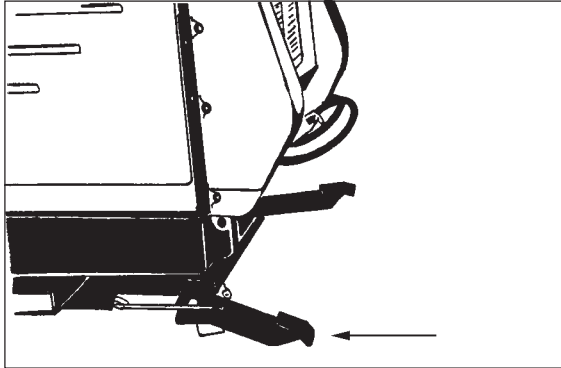

Figure 16
2. Set the parking brake by putting it into the down position. See figure 16. Make sure the key switch is in the "OFF" position.
2. Engagez le frein de stationnement en abaissant la pédale. Voir figure 16. Vérifiez que l'interrupteur principal est en position "O".